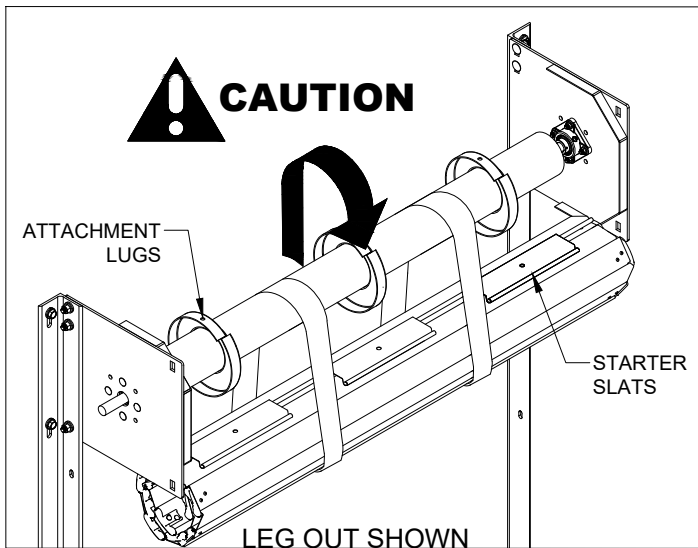

FIGURE 10
- Center the factory-rolled curtain assembly between guides as shown in Figure 10.